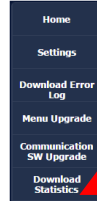

Figure 13
14. Clicking on the Download Statistics downloads the statistics from the fryer to a file for a selected date range (see Figure 13).